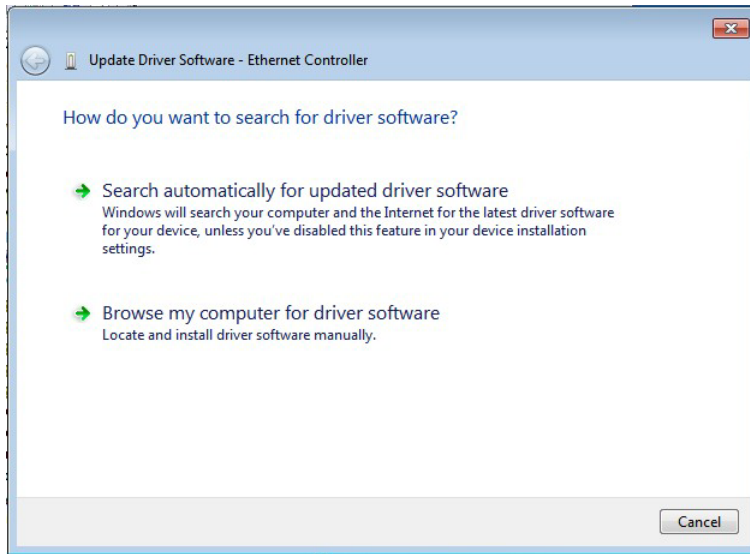

Figure 7-15: Update Driver Software Window
Step 7: The Update Driver Software Window appears (Figure 7-15).